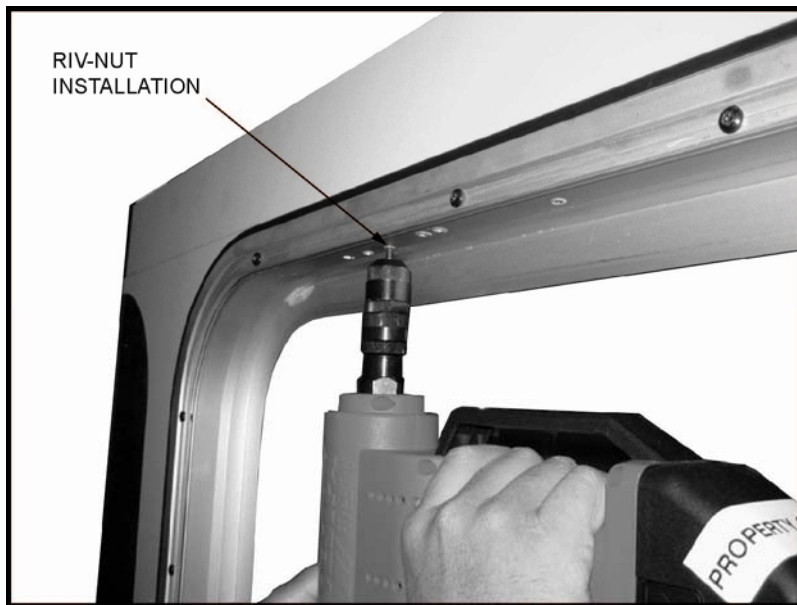

FIGURE 6: INSTALL RIV-NUTS
6. Refer to **Figure 6**. Install riv-nuts (P/N TC-9994) using rivet nut tool in all holes.